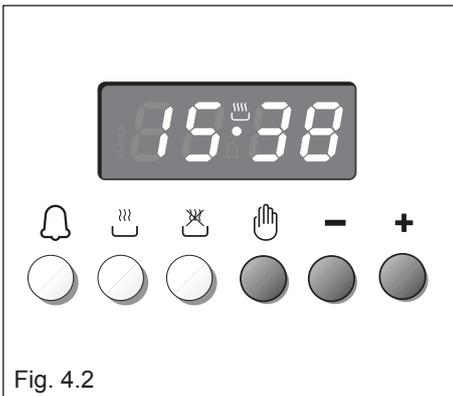

Fig. 4.2
**ELECTRONIC CLOCK** (fig. 4.2)
To set the hour it is necessary to push the button and then the or button until you have set the exact hour (fig. 4.2).